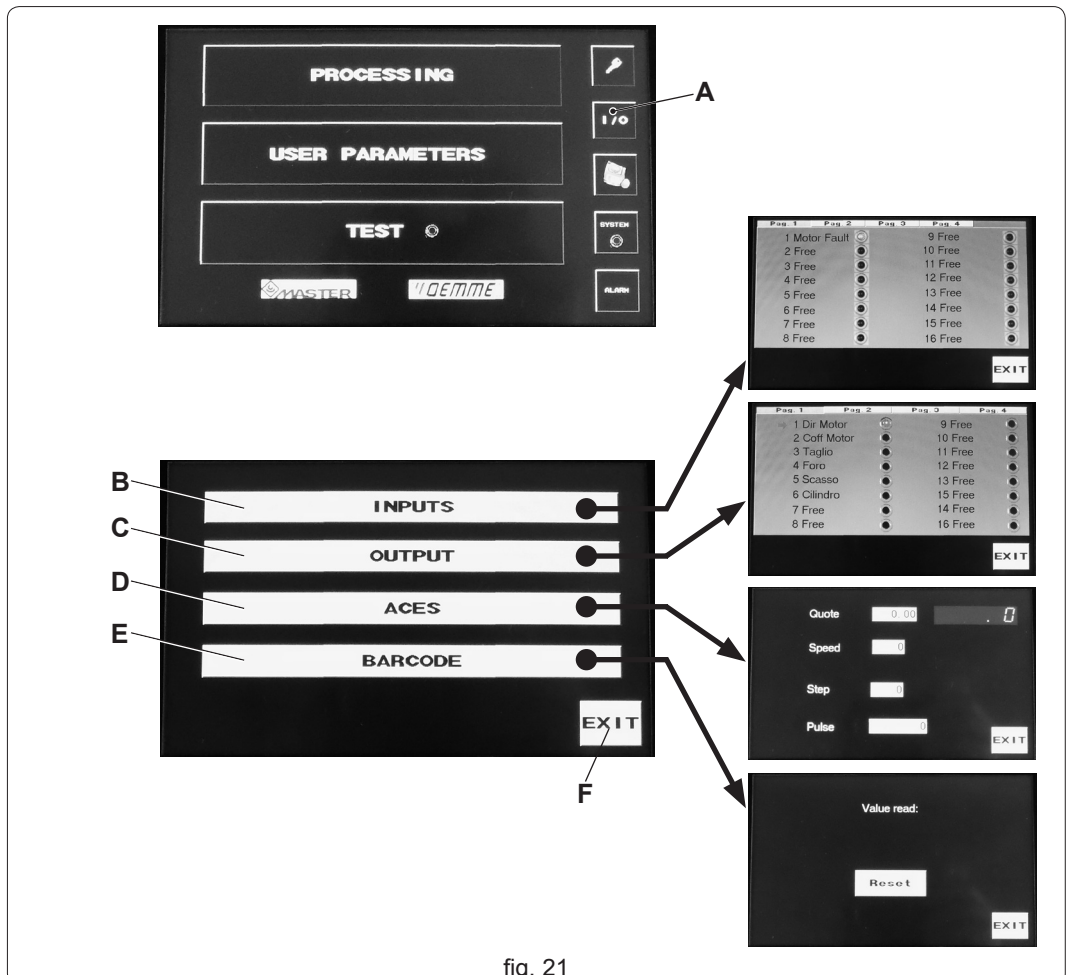

fig. 21
By digiting  (fig. 21 ref. A) you'll access to sections:
- "INPUTS" (fig. 21 ref. B): inside this window, you can only view the status of the inputs (on/off);
- "OUTPUT" (fig. 21 ref. C): inside this window, you can only view the status of the outputs;
- "ACES" (fig. 21 ref. D): inside this window, you can only view the status of the settings;
- "BARCODE" (fig. 21 ref. E): Inside this section, you can test the bar code readers. This function is to let the reader read a bar code and check on the display the reading performance;
Digit "EXIT" (fig. 21 rif. F) to come back to the previously section.